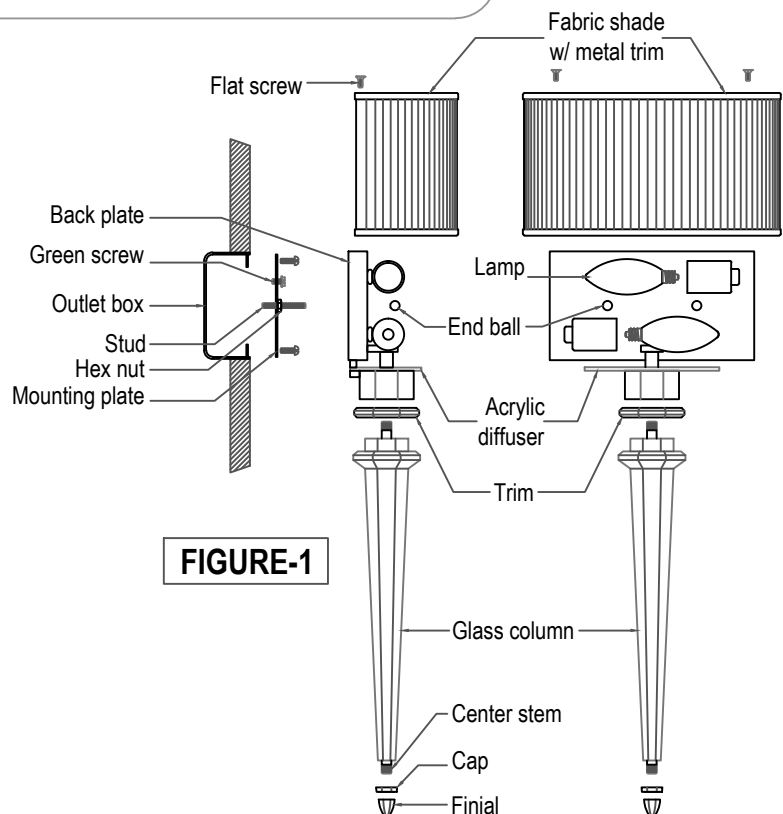

FIGURE-1
7. Attach the center stem and place the glass column together with the stainless trim, place the end cap and screw the finial to hold the glass column in place (See figure-1).
9. Place the fabric shade, Use the flat screws to hold the shade in place (See figure-1).